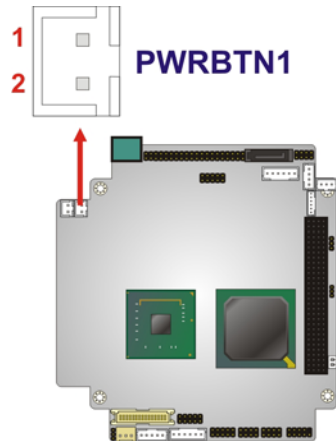

Figure 3-15: Power Button Connector Location
- CN Location:** See **Figure 3-15**